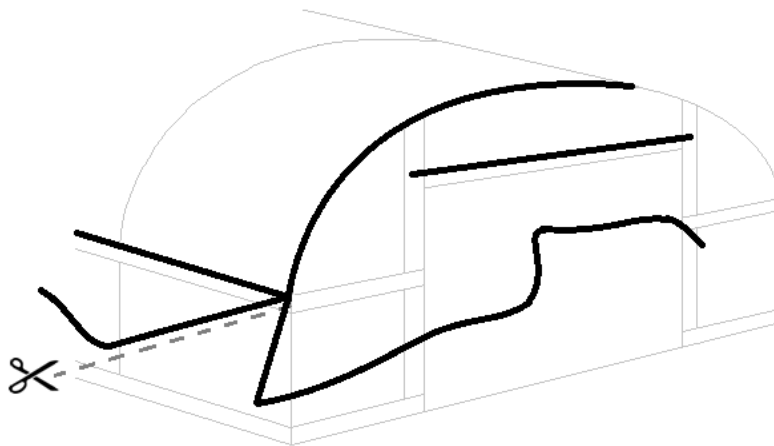

Fig45
- **STEP 3:** With just the four corners and the End Frames left, it will now be necessary to cut the Polythene at the corners, but **ONLY** below the Side Rails, to allow the cover to come smoothly around the ends (**Fig45**). It is important that the cover is cut in line with the end of the Sheep House, **NOT** the length.